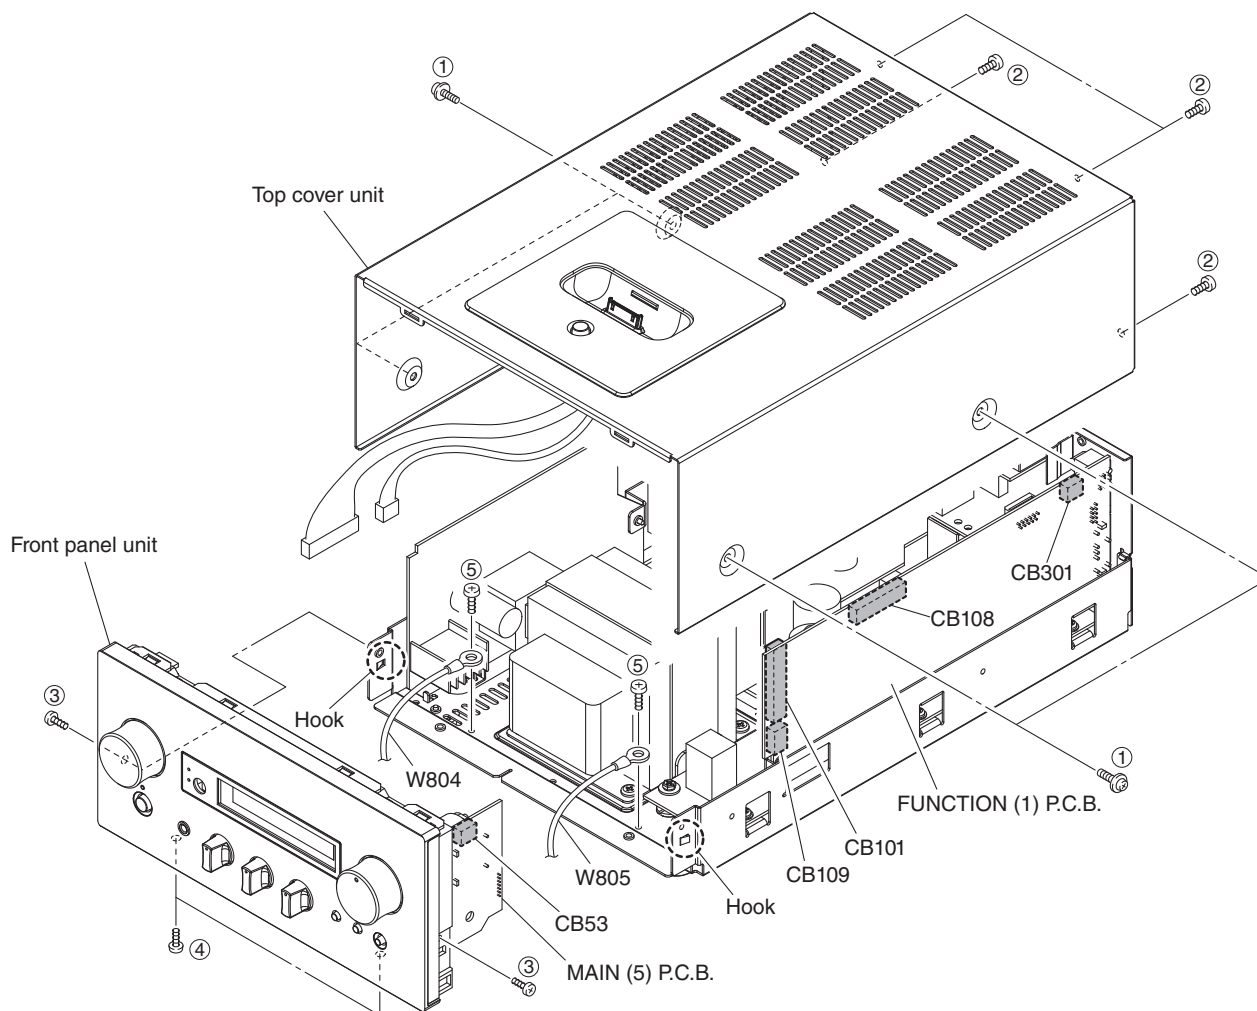

Fig. 1
- Remove 4 screws (①) and 4 screws (②). (Fig. 1)
- Lift the top cover unit. (Fig. 1)
- Remove CB108 and CB301. (Fig. 1)
- Remove the top cover unit. (Fig. 1)
- Remove 2 screws (③) and 2 screws (④). (Fig. 1)
- Remove 2 screws (⑤) and remove W804-805. (Fig. 1)
- Remove CB53, CB101 and CB109. (Fig. 1)
- Release 2 hooks and remove the front panel unit. (Fig. 1)